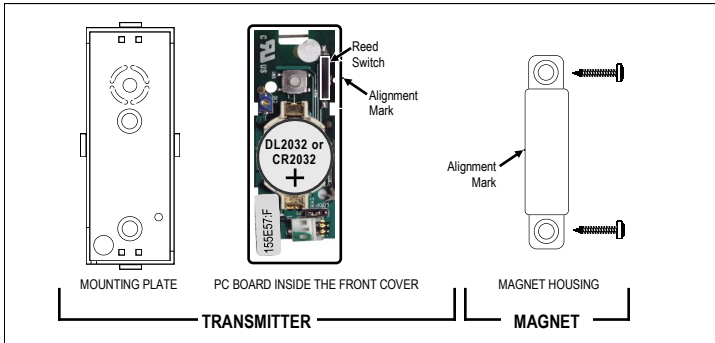

Fig. 1. GEM-TRANSLP Component Parts
Notes: The transmitter and magnet may be mounted in any position with no degradation in performance. Thus, if a left-handed reed switch is required, the unit may be mounted upside down. However, for reference purposes in this text, the transmitter will be considered oriented with the reed switch at the top, as shown in Fig. 1. The PC board is factory installed in the transmitter front cover **and must not be removed**. A raised alignment mark on the transmitter front cover indicates the location of the reed switch on the PC board. There is also an alignment mark on the plastic magnet housing.
- all 7 characters on the sticker. Using the Fig. 1 example sticker, enter "155E57F" (no need to enter the colon character);